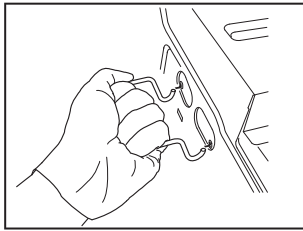

Fig. 1
1. Insert the handle securely into the lateral holes (Fig. 1)